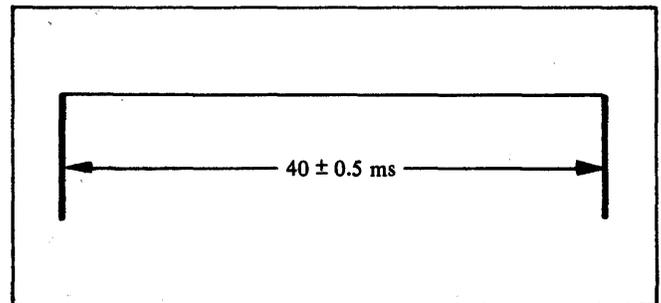

Figure 4-1. INDEX Pulse
3. Check that the interval between INDEX pulses is 40 ± 0.5 milliseconds, as shown in figure 4-1.